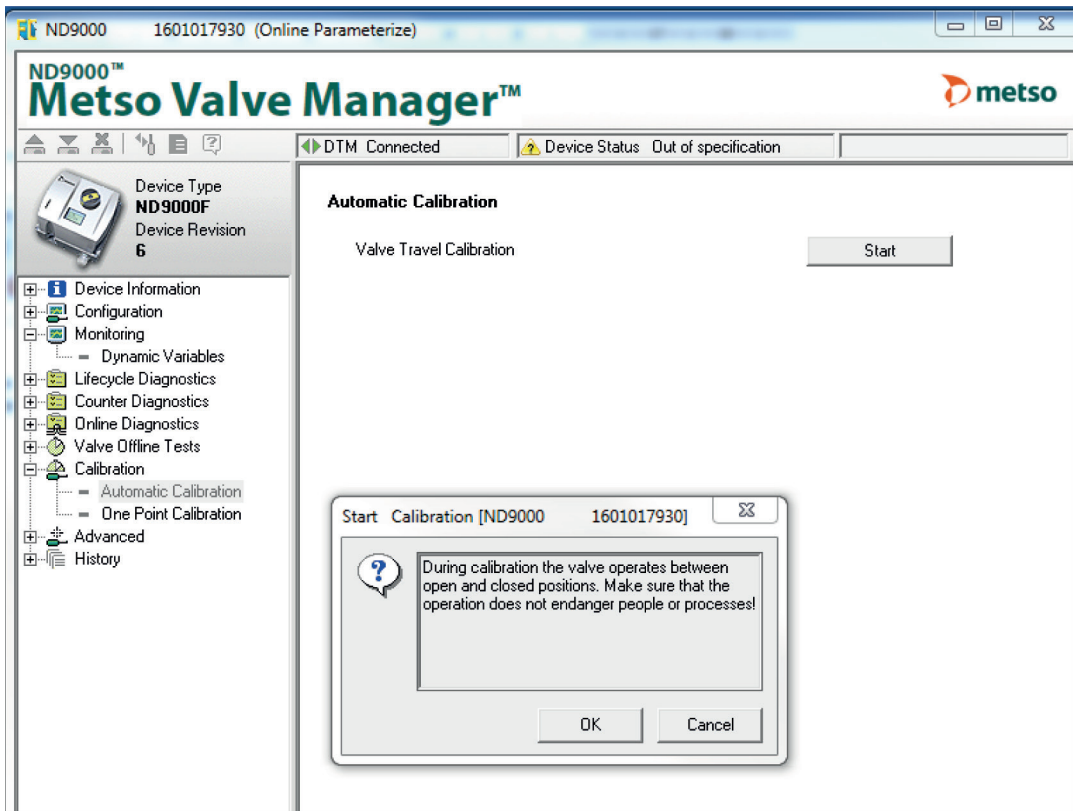

Figure 2. Automatic calibration in Metso Valve Manager DTM.
2. Transducer block parameters, assembly related section See Figure 2